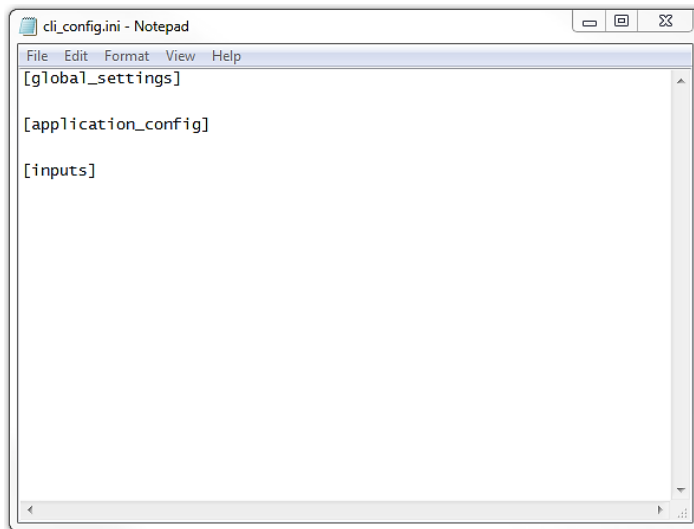

Figure 34: Running an application in the command line - Creating the application configuration file
4. Create three sections in the configuration file: `global_settings`, `application_config`, and `inputs` with each heading enclosed by square brackets (Figure 34).